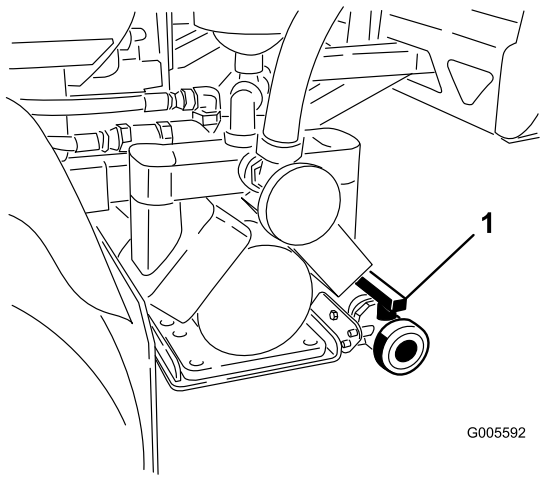

Figure 20
2. Locate the tank drain valve on the rear of the machine (Figure 20). The valve is to the rear of pump, attached to the support bracket.